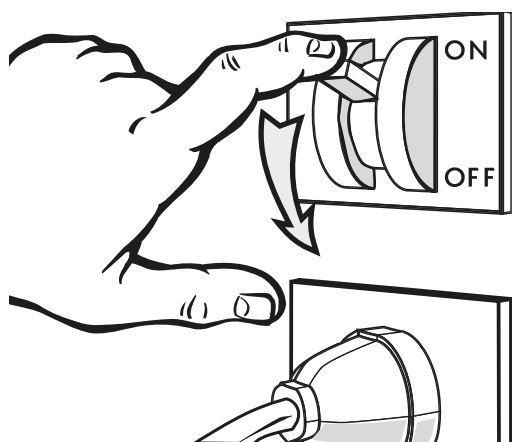

Fig. 41
- Disconnect the power supply to the cabinet using the wall-mounted main switch-disconnector ("Fig. 41").